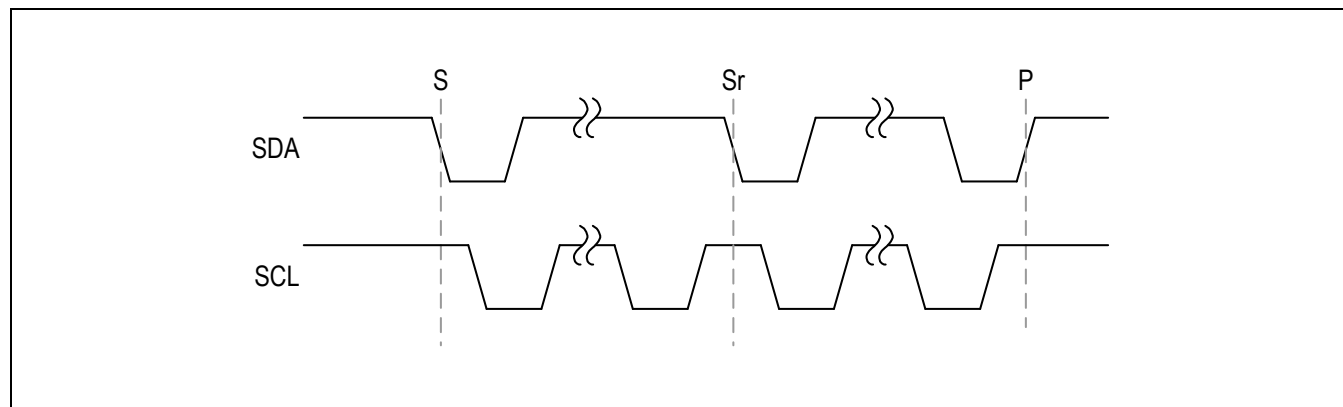

Figure 2. START, STOP, and REPEATED START Condition
A controller device initiates communication by issuing a START condition. A START condition is a high-to-low transition on SDA with SCL high. A STOP condition is a low-to-high transition on SDA while SCL is high (Figure 2). A START (S) condition from the controller signals the beginning of a transmission to the MAX42500. The controller terminates transmission and frees the bus by issuing a STOP (P) condition. The bus remains active if a REPEATED START (Sr) condition is generated instead of a STOP condition.